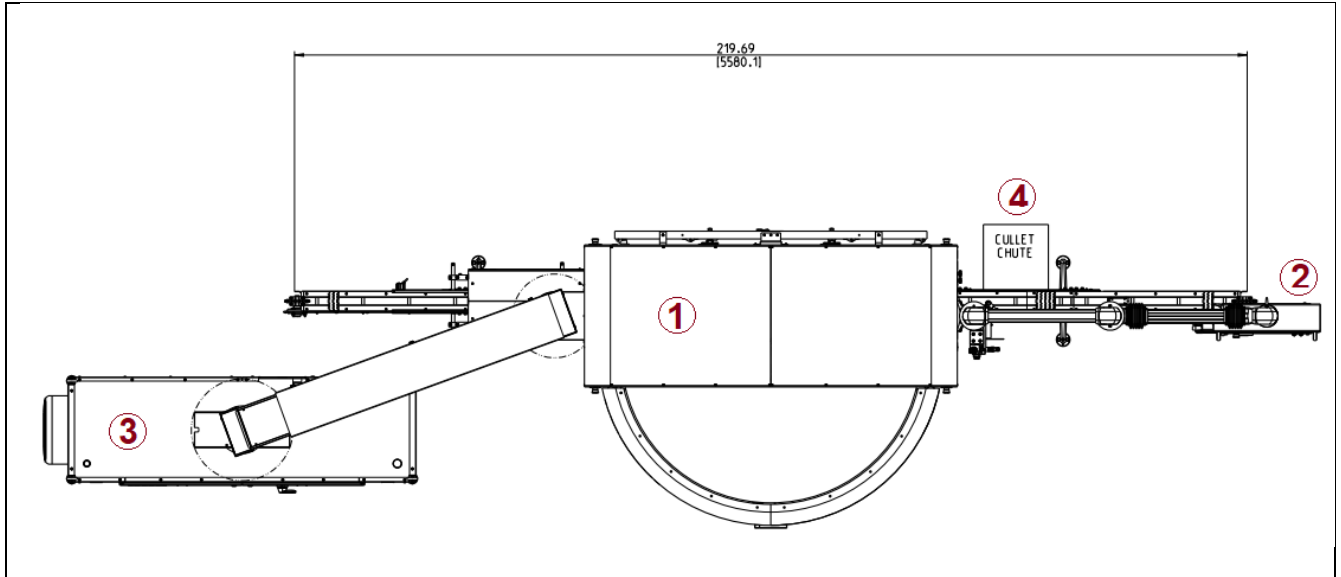

Figure 2: *FleX T In-line conveyor with remote electronics*
- 1 bottle carrier assembly. Bottle carriers are available in two styles: conventional-style starwheels (usually upper and lower starwheel assemblies) or the basket-style carrier (Figure 2). Both types of bottle carriers are described below. Bottle carriers are used to transport containers from the infeed screw(s), through the inspection stations, to the outfeed assembly.
Parallel transfer conveyor (Figure 2)